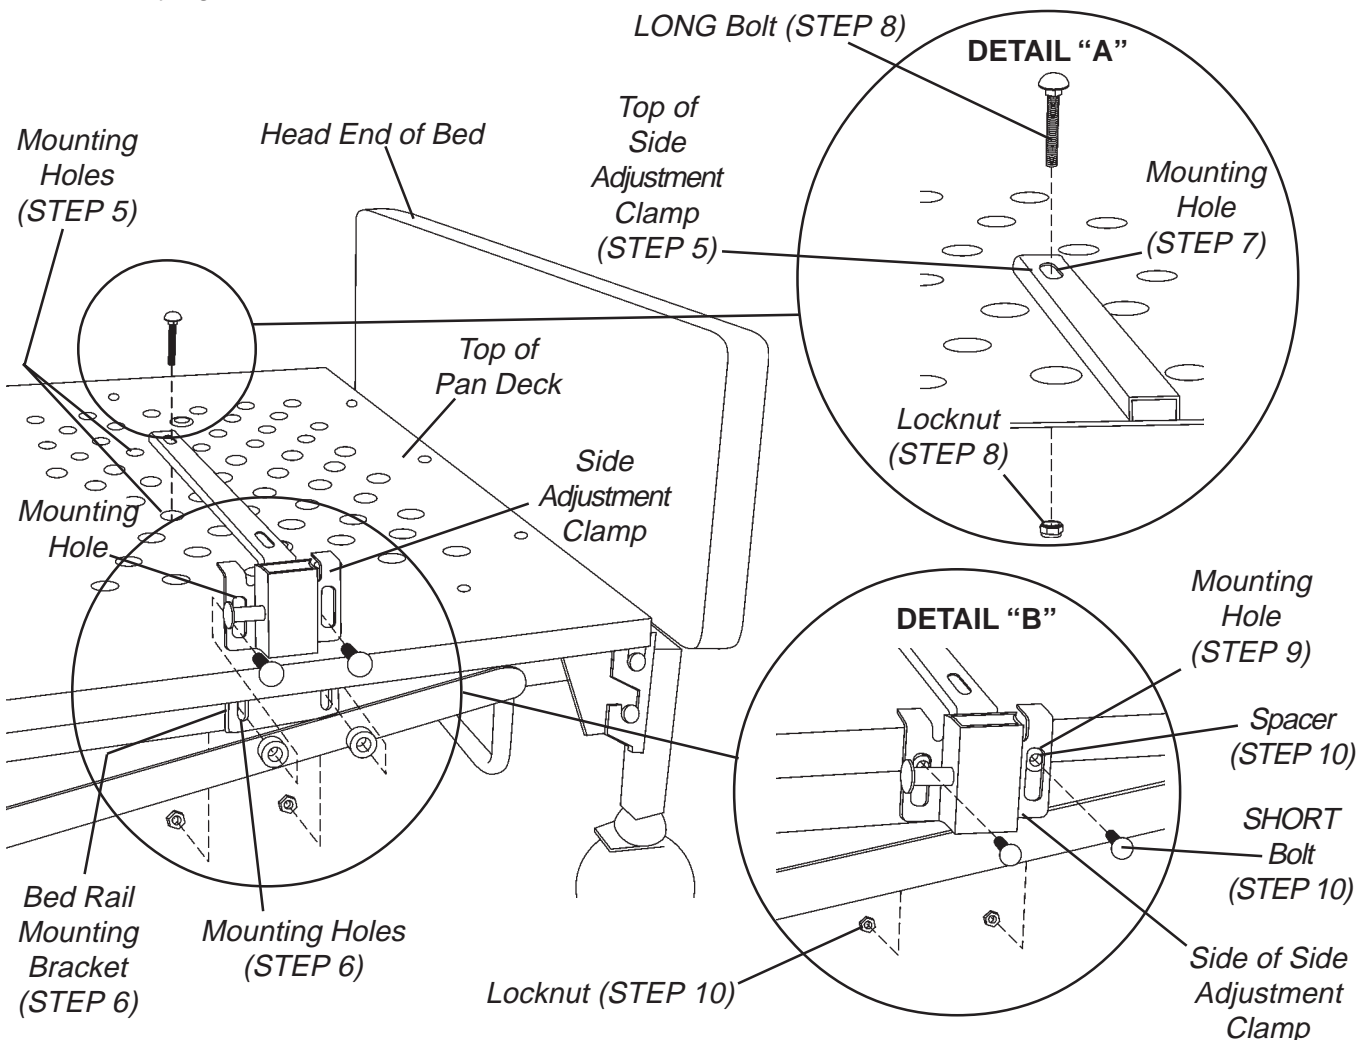

FIGURE 11 - OPTIONAL BED RAILS - BARIATRIC BED ONLY
**Bariatric Bed ONLY (FIGURE 11)**